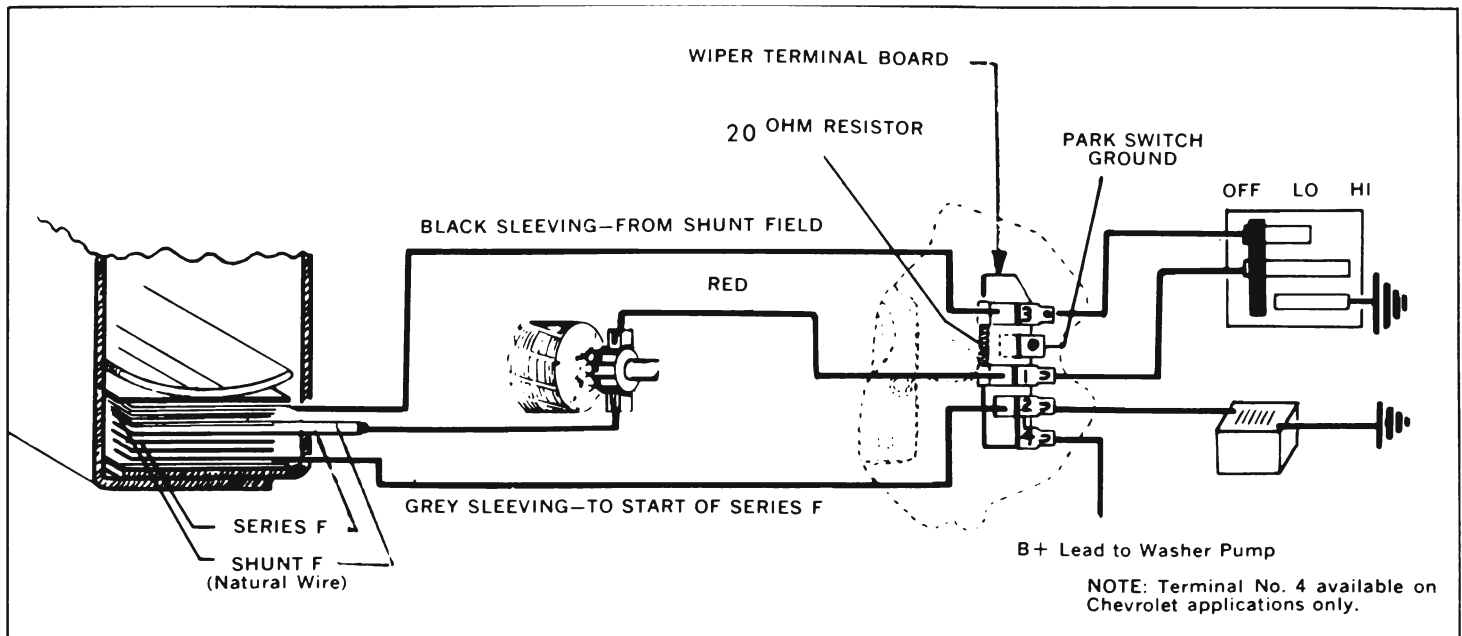

Figure 10-95—Two Speed Wiper Motor Wiring
wiper as explained under 'Principal of Operation' in paragraph 10-54. A combination pictorial and schematic circuit is shown in Figure 10-95. An explanation of 'LO', 'HI' and parking circuits follows:
0	(1) Loose solder connection at wiper terminal No. 2 (Figure 10-95). (2) Loose splice joints or brush lead connections.